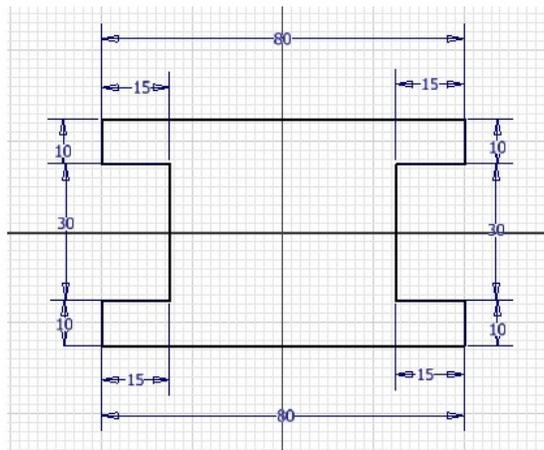

Figure 2-68 Sketch of the outer loop
- b. Draw the outer loop by specifying the length and angle lines by using the Dynamic Input method, refer to Figure 2-68.
17. Right-click to display the Marking Menu and choose **OK** from it to exit the **Line** tool. The sketch of the outer loop is shown in Figure 2-68. You need to arrange the positions of dimensions in the sketch by dragging them to view the sketch clearly.
The angular dimensions have not been shown in Figures 2-68 and 2-69 for clarity of sketches. You can control the display of the linear and angular dimensions of the sketch. To do so, choose **Application Options** from the **Options** panel of the **Tools** tab; the **Application Options** dialog box is displayed. In the **Sketch** tab of the **Application Options** dialog box, choose the **Settings** button; the **Constraint Settings** dialog box is displayed. Clear the **Create dimensions from input values** check box in the **Dimensions** area of the **Constraint Settings** dialog box and then choose **OK**. Next, choose the **Apply** and **Close** buttons from the **Application Options** dialog box to turn off applying dimensions automatically during sketching.